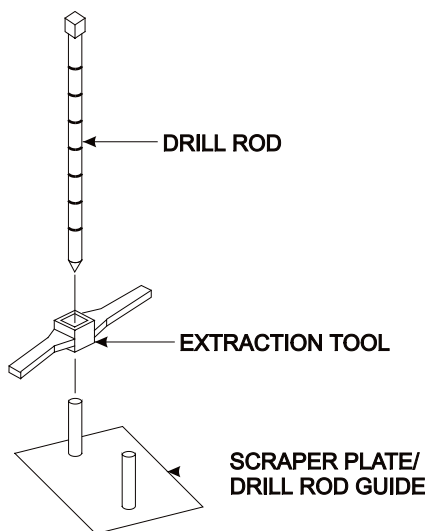

Figure 2-2. Drill Rod Positioning
3. For direct transmission measurements, put the drill rod through the extraction tool and then through one of the guides on the plate (see Figure 2-2).